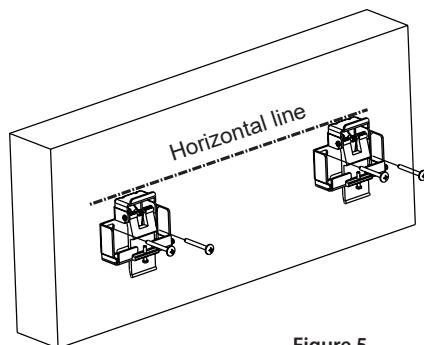

Figure 5
1. For mounting on a solid stone / concrete surface please use the heavy-duty dowels (j) or plastic dowels (h). Determine the position for mounting the mounting brackets (b) according to the housing dimensions and the height of the projection screen. Draw a horizontal line (spirit level) to install the two mounting brackets at the same height. (see Fig. 5)